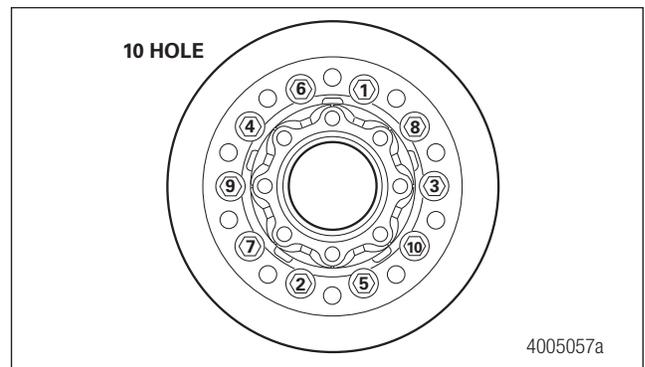
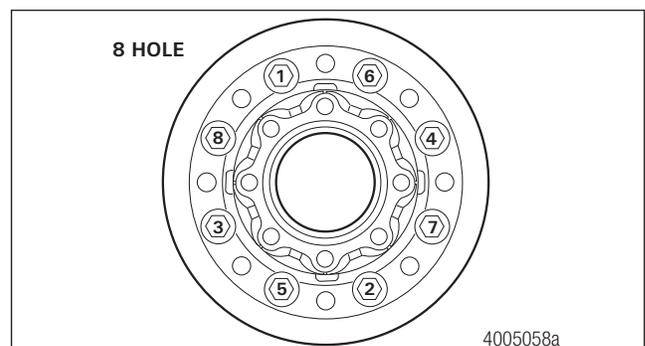

Fig. 9.8 10-hole Rotor Torque Sequence
Fig. 9.9 8-hole Rotor Torque Sequence
STEP 3 - Tighten the hub-to-rotor bolts in a crisscross pattern to the correct torque. Refer to Section 11. Figure 9.8 or Figure 9.9.